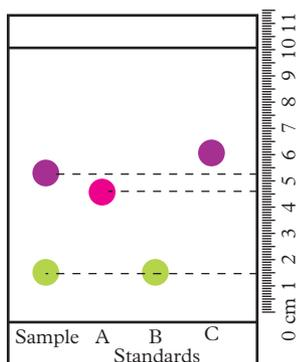

FIGURE 5 Separation of pigments in food and comparison to standard dyes
- 21 A separation was conducted to determine the pigments in a sample of food colouring. The chromatogram included the standards of food dye that the manufacturer claims is in the food product. Figure 5 shows the chromatogram of the pigment and standard dyes A–C.